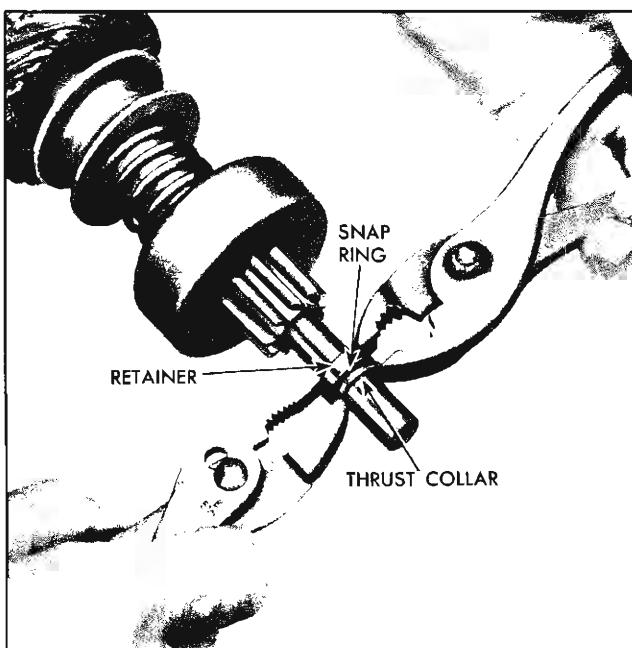

Fig. 11-11 Forcing Retainer Over Snap Ring
e. Assemble thrust collar on shaft with shoulder next to snap ring (Fig. 11-11).
- f. Place armature flat on work bench, and position retainer and thrust collar next to snap ring. Then, using two pairs of pliers at same time (one pair on either side of shaft), grip retainer and thrust collar and squeeze until retainer is forced over snap ring (Fig. 11-11).